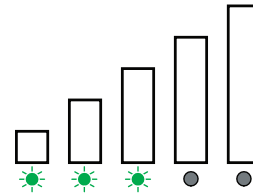

Figure 17
6. After selecting the radio channel, wait for the Signal Strength LEDs to stop sweeping back and forth. 1 to 5 solid green LEDs means a connection has been made and indicates the strength of the signal (Fig.17).